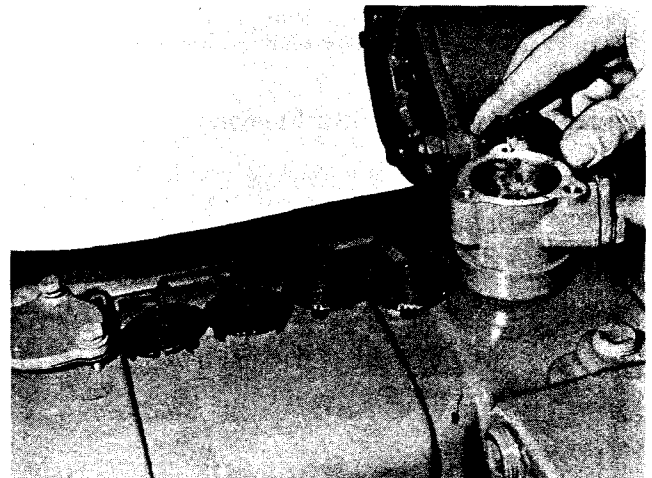

Fig. 2-19 (N21928) Crankcase breather — screen type
2. Remove capscrews, washers, cover, screens and baffle if used, from breather body, Fig. 2-19.